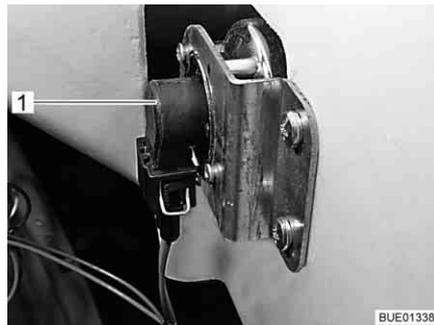

Fig. 274 Direction indicator
- Put your hand behind the lamp holder (Fig. 274,1).